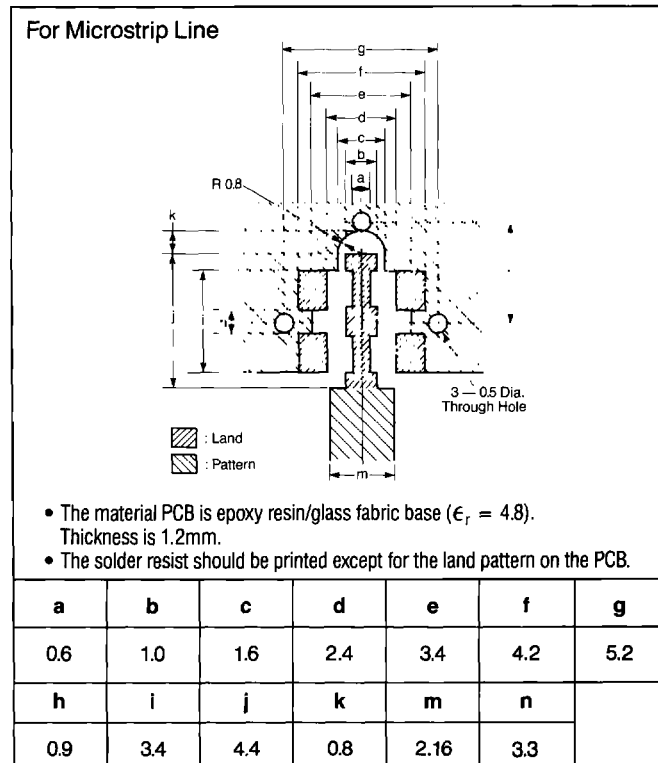
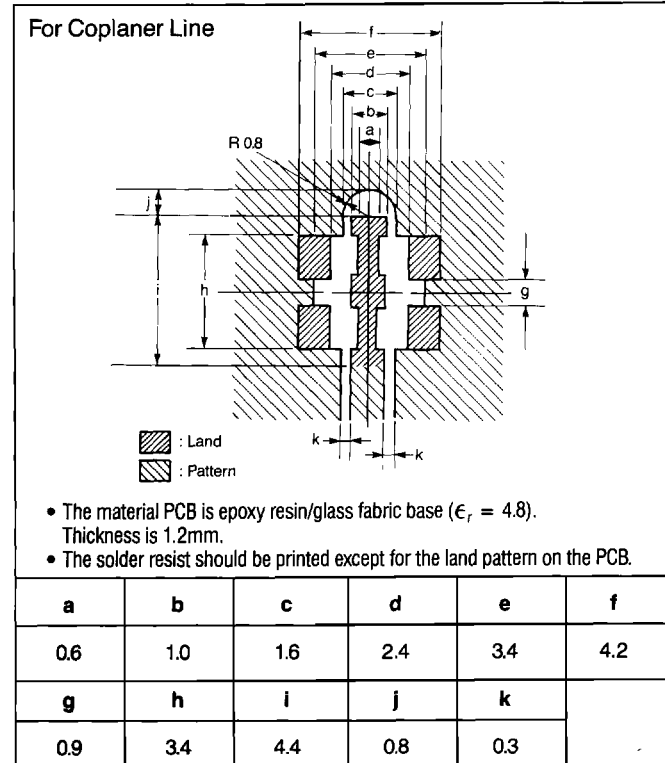

Fig. 1
Fig. 2
- PCB mounting pattern dimensions: Dimensions shown in Fig. 1 and Fig. 2 should be used for PCB design.